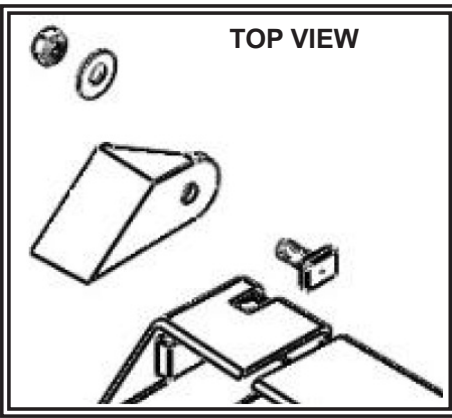

Figure 4
6. Install the bracket as shown on Figures 4 & 5. Gently hand tighten the nut.
2. Install the shroud bracket as shown on Figures 4 & 5. Gently hand tighten the nut.